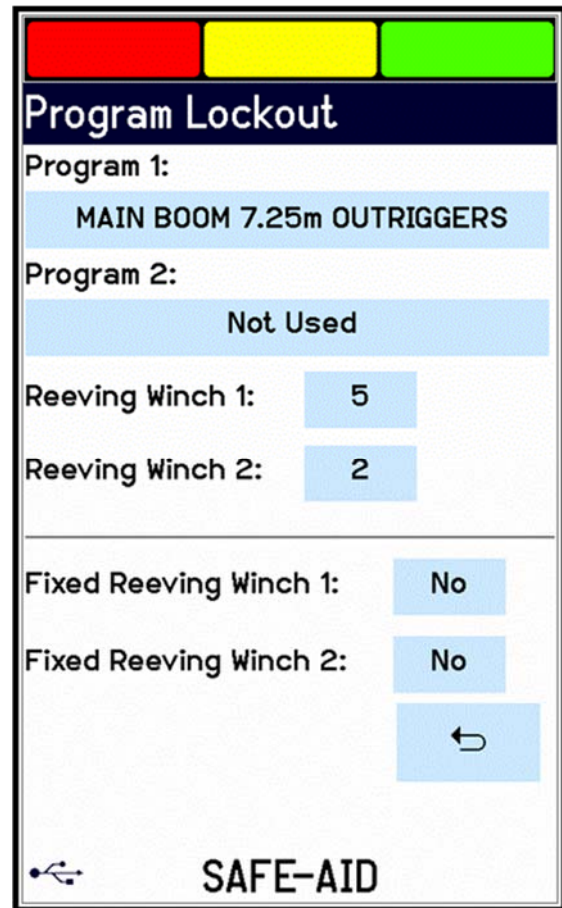

Figure 28
5.  Select **Yes** – the system will now run through the complete program selection to select the program to be locked – an abbreviated description will be displayed once complete (figure 28) Repeat this for the second program if required.